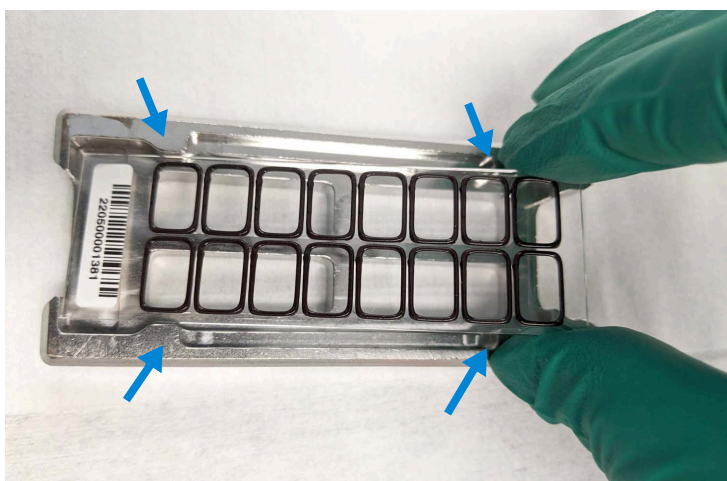

Figure 15 Chamber base, guide posts denoted with arrows
- 3 Position the gasket slide between the 4 chamber base guide posts (see **Figure 15**) with the barcode label resting over the base's rectangular barcode guide.